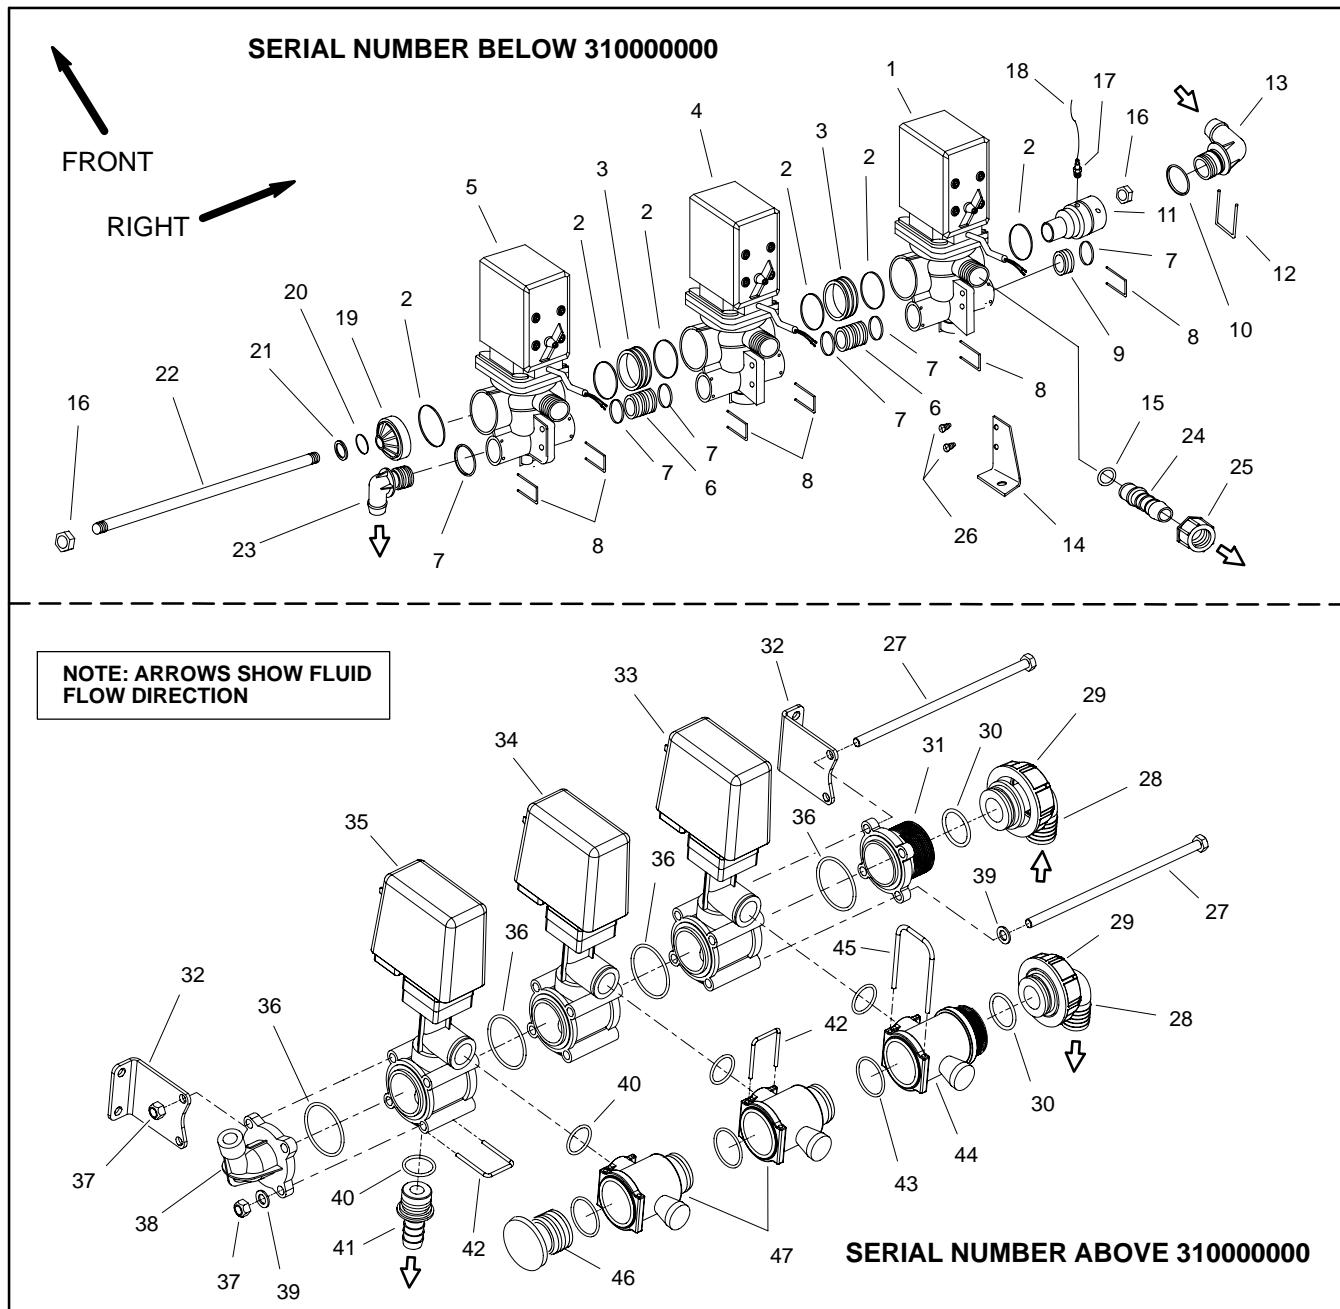

Figure 24
The boom control switches on the operator spray console are used to energize the boom valve motors and open the boom valves. The open boom valves allow system flow to reach the appropriate boom section (right, center or left). Two (2) styles of boom valve motors have been used on Multi Pro 5700-D machines. Both of these motor styles are shown in Figure 24.
#### Disassembly (Fig. 24)
2. Separate boom valve motors as needed using Figure 24 as a guide. Discard all removed O-rings and gaskets.
#### Assembly (Fig. 24)
1. Assemble boom valve motor assembly using Figure 24 as a guide. Replace all removed O-rings.
- A. On machines with serial numbers below 310000000, before installing rod (Item 22) into assembly, thread nut (item 16) fully onto rod end that has fewer threads. Make sure that O-ring (Item 20) is not damaged during installation over rod.